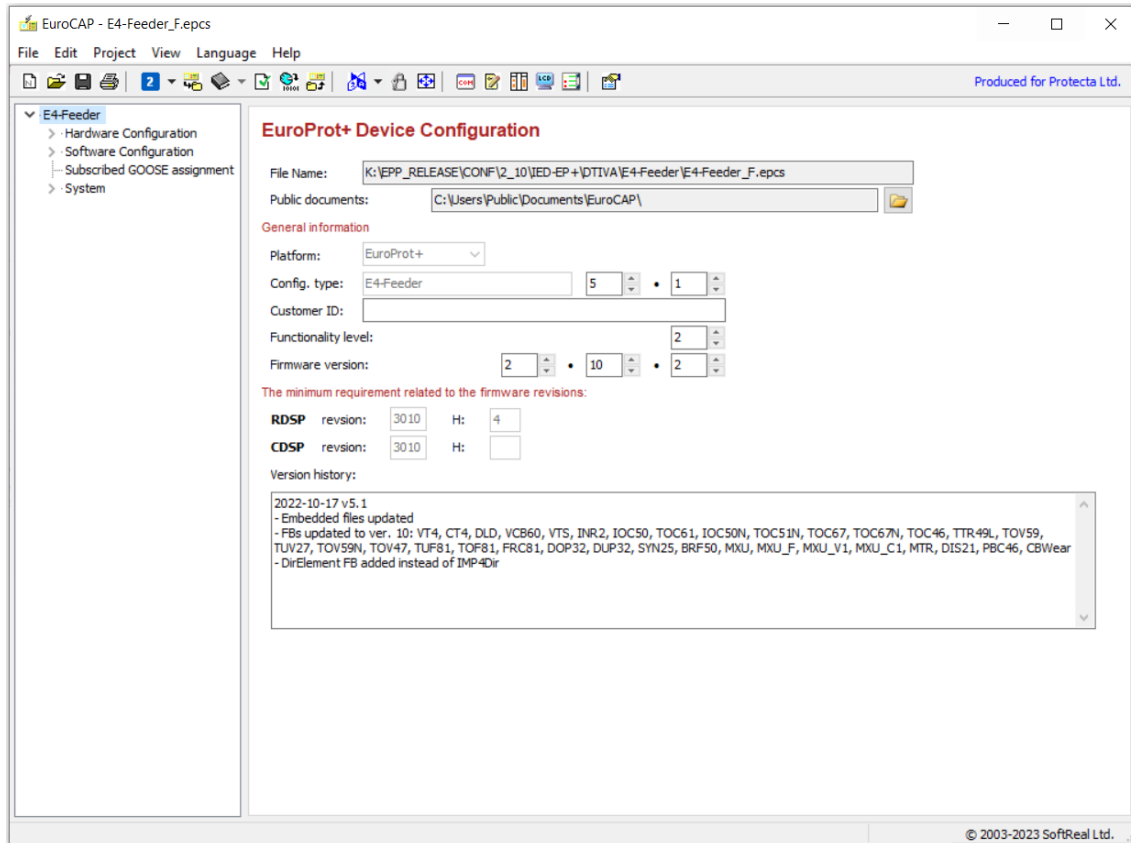

Figure 0-3 The EuroCAP – configuration main window
- some basic information about the configuration (right side of the window, see Figure 0-3 above.)